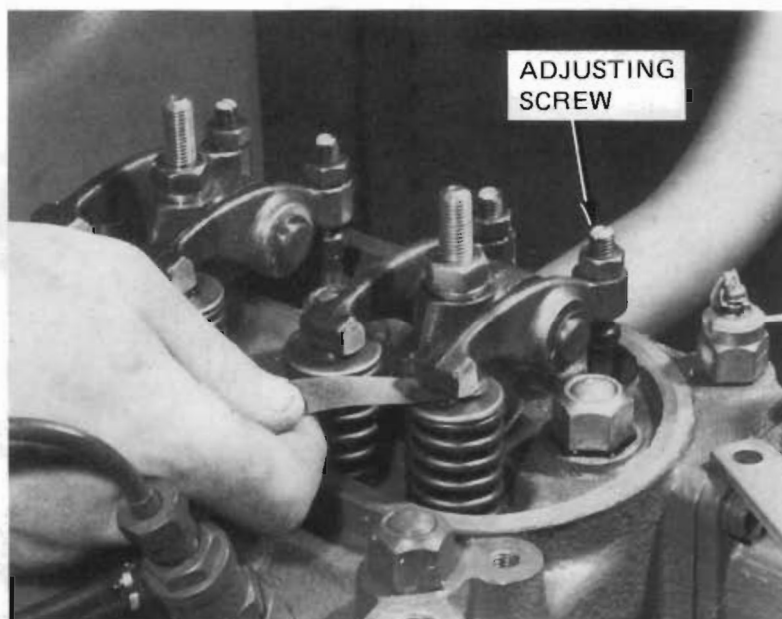

Figure 45 — Checking Valve Clearance
2. With the engine idling, check the clearance of each valve with a step-type feeler gauge, Figure 45.